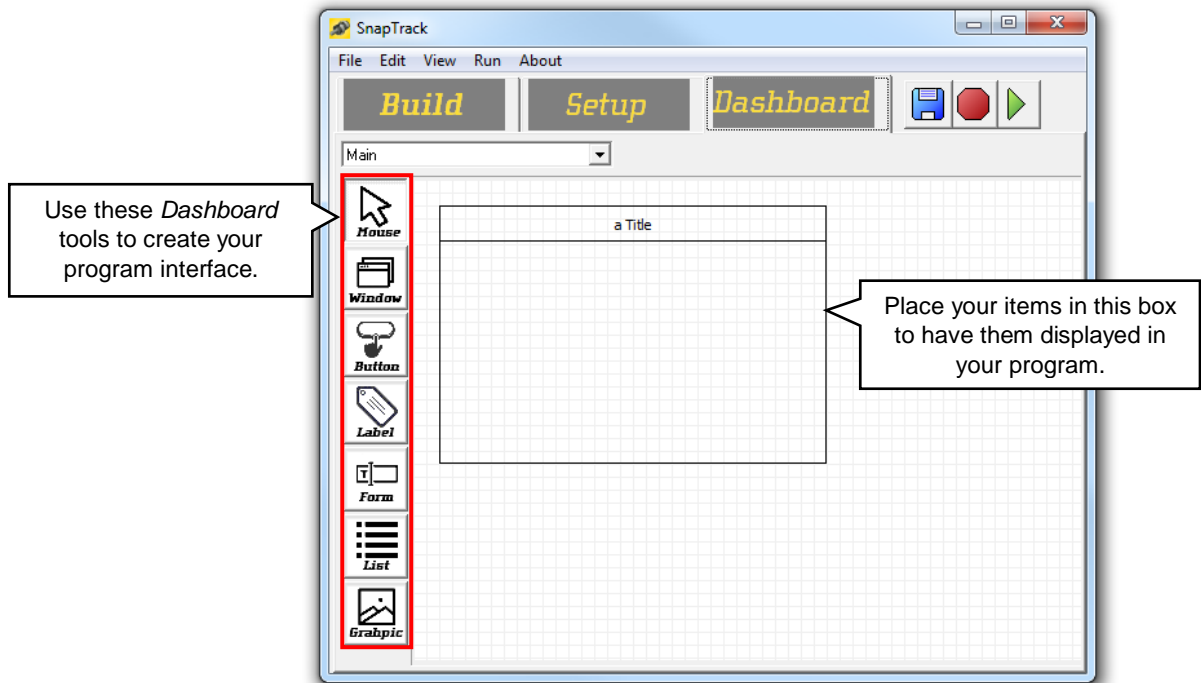

Figure 1.2 The *Dashboard* screen with different tools and items for creating a user interface.
**Dashboard Tools** A list of different items can be found on the left-hand side of the *Dashboard*, as shown in Figure 1.2. Table 1.1 briefly describes each of these tools and their functions. These tools allow a user to create different *Dashboard* items to interact within a program. Once items have been created, they may be programmed with actions or displays. Be sure to place these items within the box labeled “a Title” (by default). Your items will not appear unless they are placed within a display window.